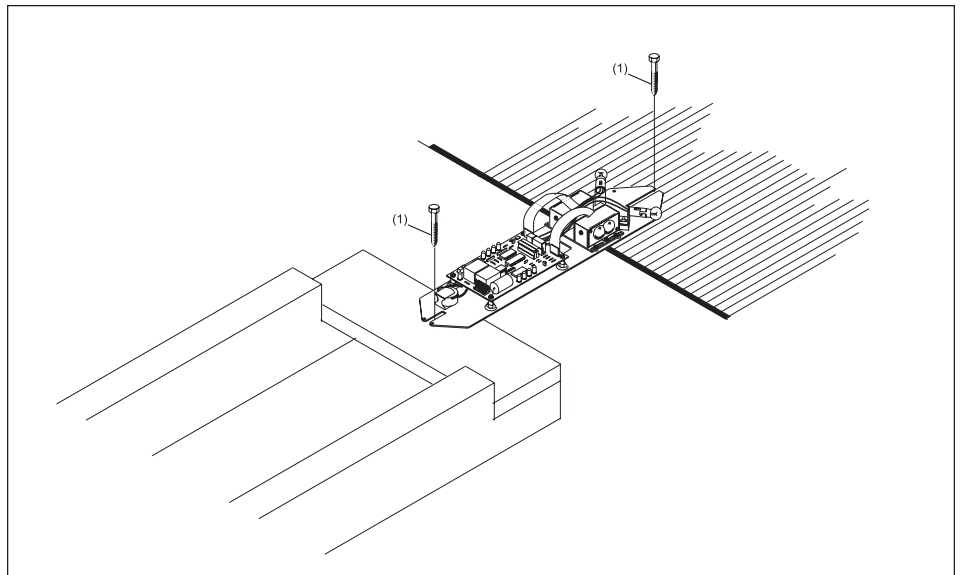

Figure 10.
(1) CENTER LINE OF SENSOR
(2) SENSOR
(3) FOUL LINE
4. Mark the mounting hole locations, set the units aside, and drill holes for the mounting screws. Use two 1/4 x 2" lag screws, one in the mounting plate and one in the approach fill. Replace the unit and mount in place. Refer to *Figure 10*.